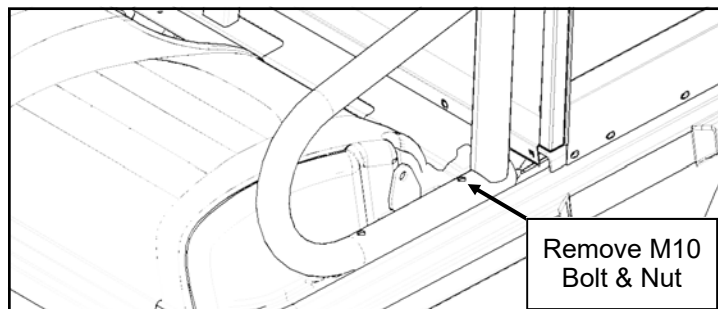

Figure 1.4: Seat side bolster screws
- 1.4 Remove and discard the rear M10 bolt and nut at the bottom of the side bolster next to the seat, on both sides of the vehicle. Retain the washers for later use. (**Figure 1.4**).